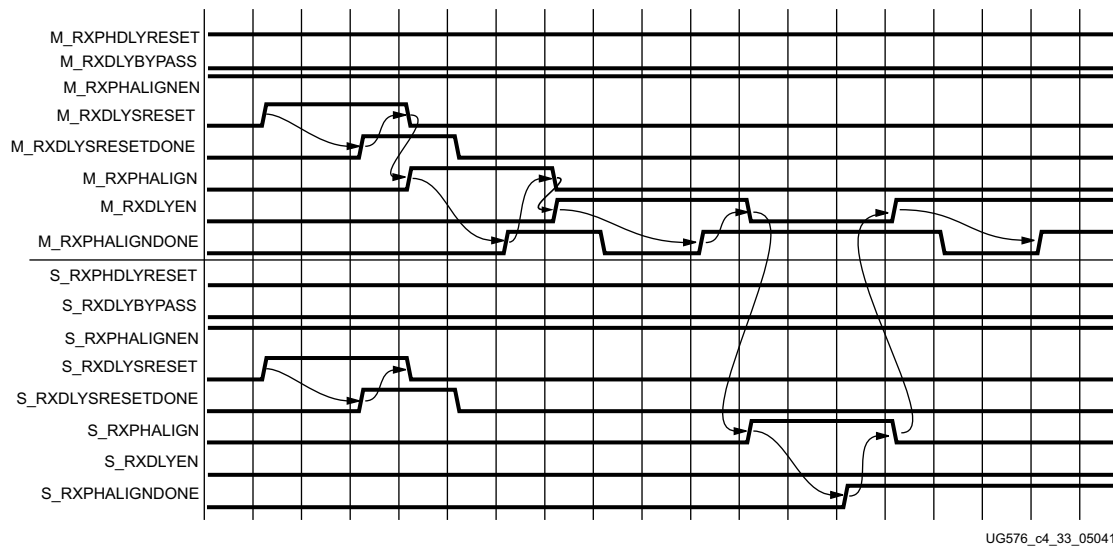

Figure 4-37: RX Phase and Delay Alignment in Manual Mode
Figure 4-37 shows the required steps to perform manual RX phase and delay alignment.
Notes relevant to Figure 4-37:
1. The sequence of events shown in Figure 4-37 is not drawn to scale.